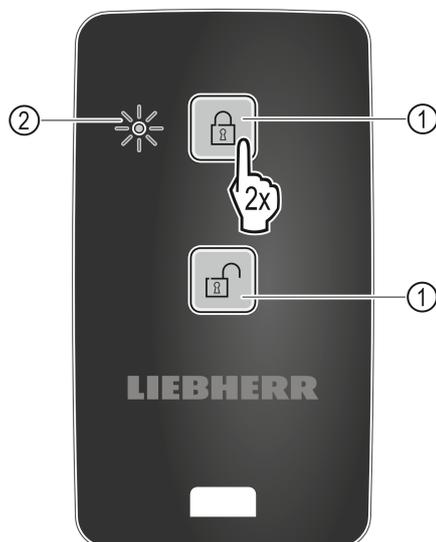

Fig. 101
- ▶ Press a button on the remote Fig. 101 (1) control twice.
- ▶ The status LED Fig. 101 (2) on the remote control flashes three times.